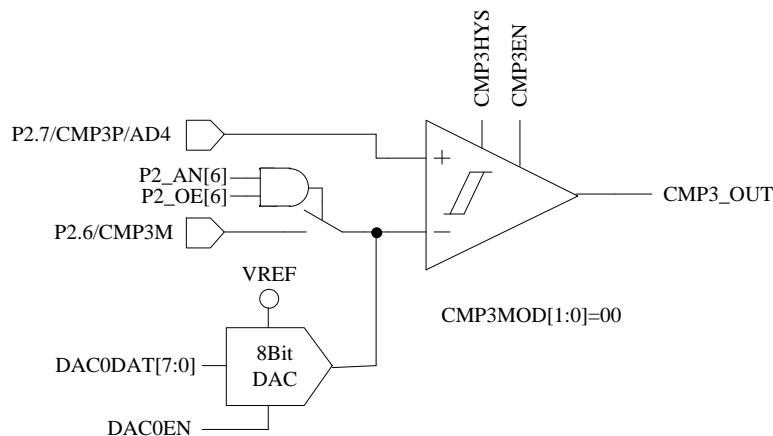

Figure 30-2 Single-comparator Input Mode (CMP\_CR1[CMP3MOD] = 00)
- When **CMP\_CR1[CMP3MOD]** = 00, CMP3 works in single-comparator input mode. The connection of input and output pins are shown in Figure 30-2.